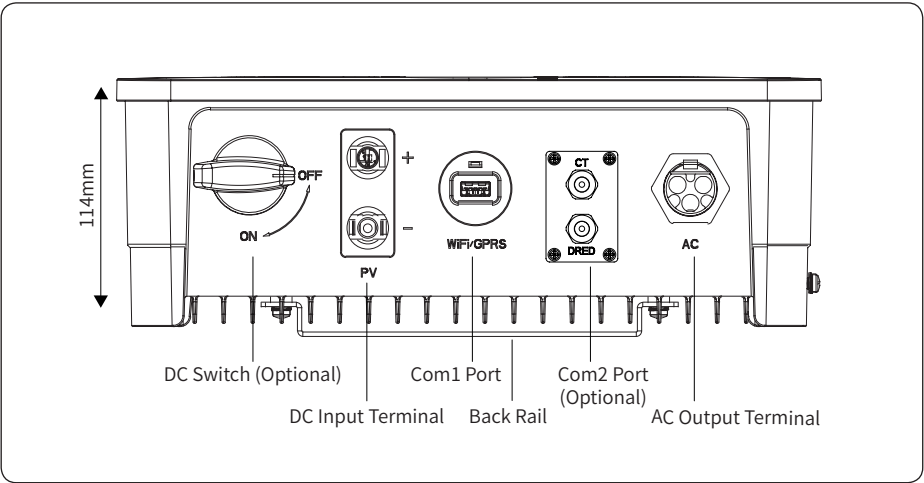

Figure 3-4 Bottom view
3.2.3 Inverter bottom view, as shown in Figure 3-4: